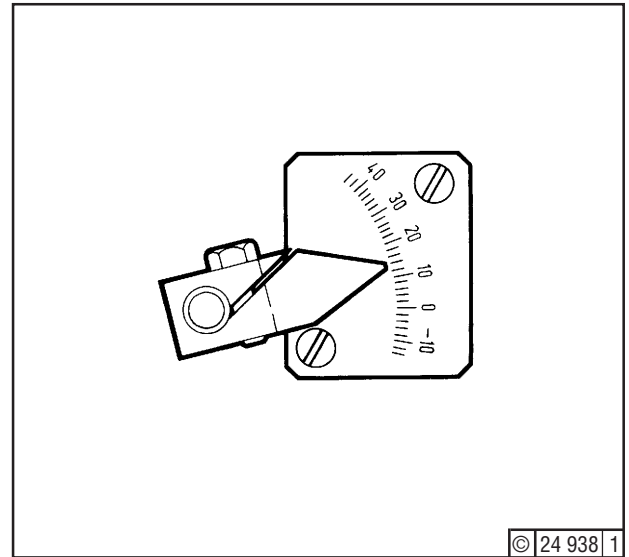

Fig. 17
11. Adjust linkage at points C8 (*) or C10 (**) - Fig. 17 - so as to obtain the settings scheduled in table at right. Then tighten all locknuts.
12. Set stop screw A13 so that load indicator on injection pump points to graduation (14) - Fig. 17.